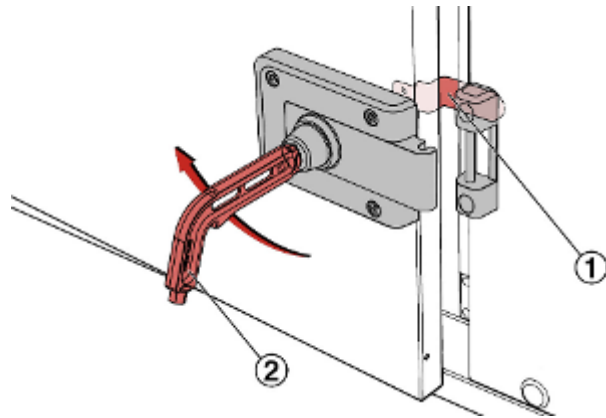

Fig. 56: Releasing the safety catch
4. ▶ Turn the TROX special key or operating lever ( Fig. 56 /2) 90° clockwise.
⇒ This releases the safety catch ( Fig. 56 /1); the inspection access door can now be completely opened.